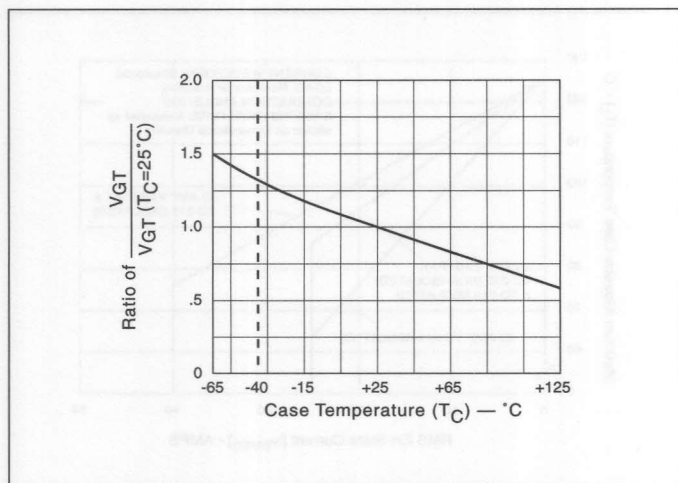

Figure 4.7 Normalized DC Gate Trigger Voltage for all Quadrants vs Case Temperature
- See Figure 4.7 for V_{GT} vs T_C .